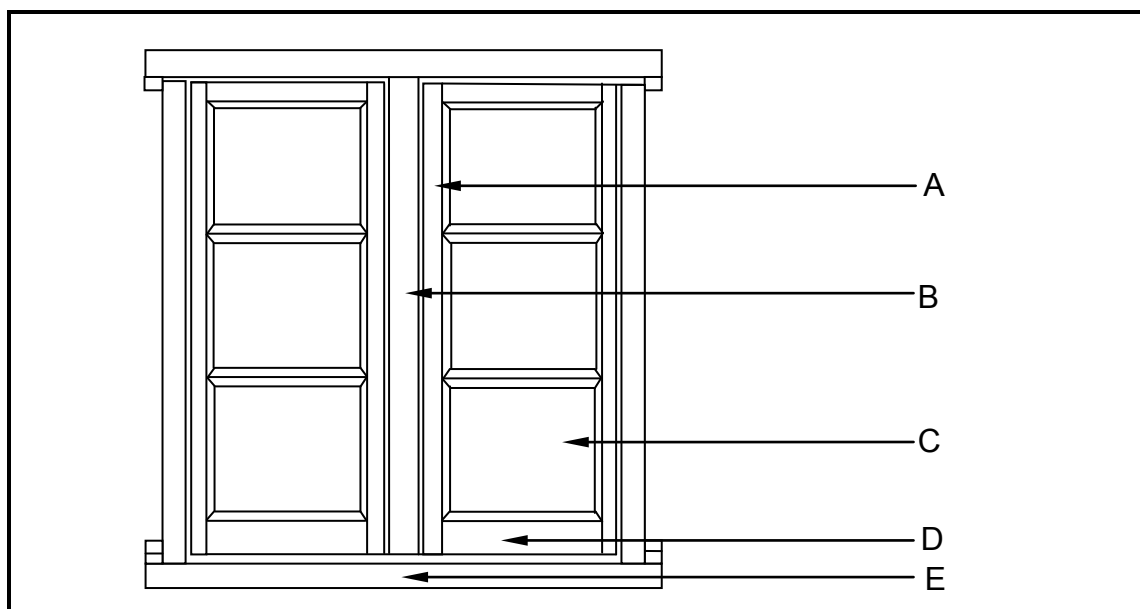

FIGURE 1.9
1.9 FIGURE 1.9 below shows the front elevation of a window.